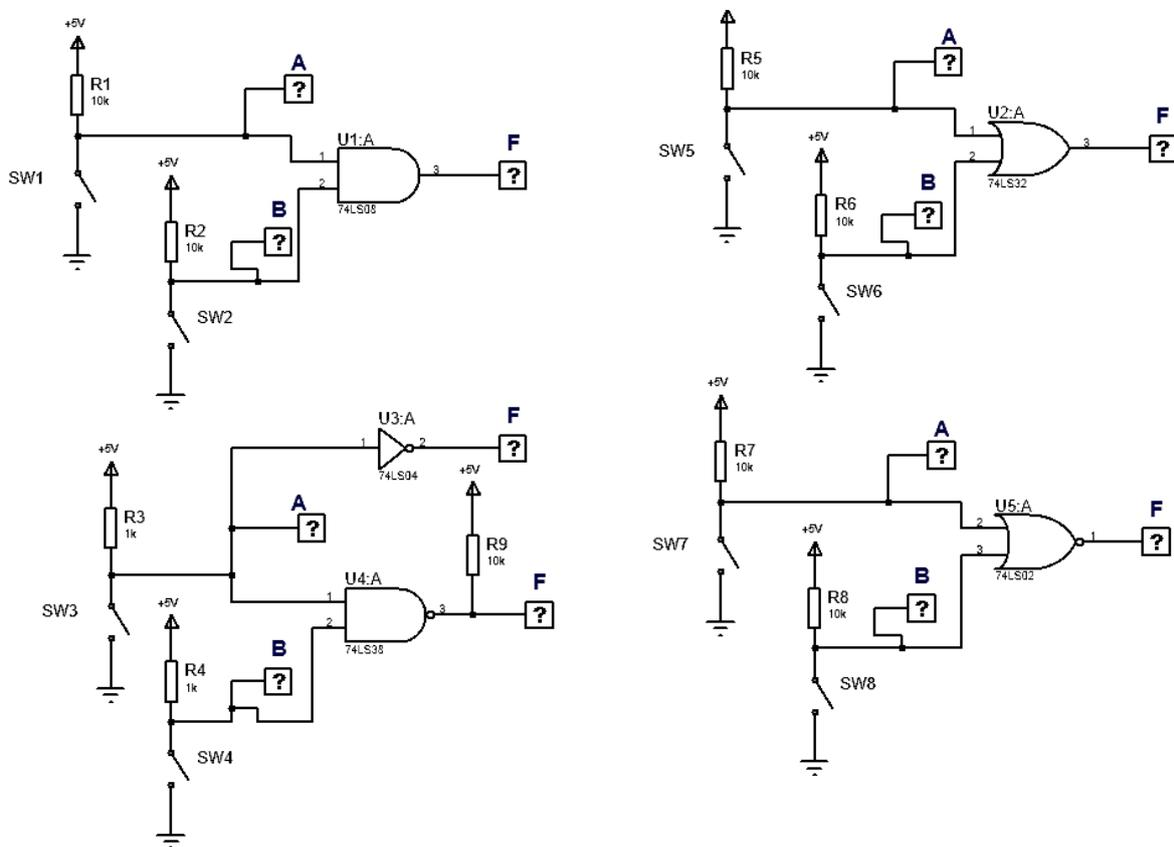

Figure 45: Exercise: Logic Gates
- 1 Identify each of the logic gates shown in Figure 45.
- 2 Use Proteus to draw the schematic in Figure 45.